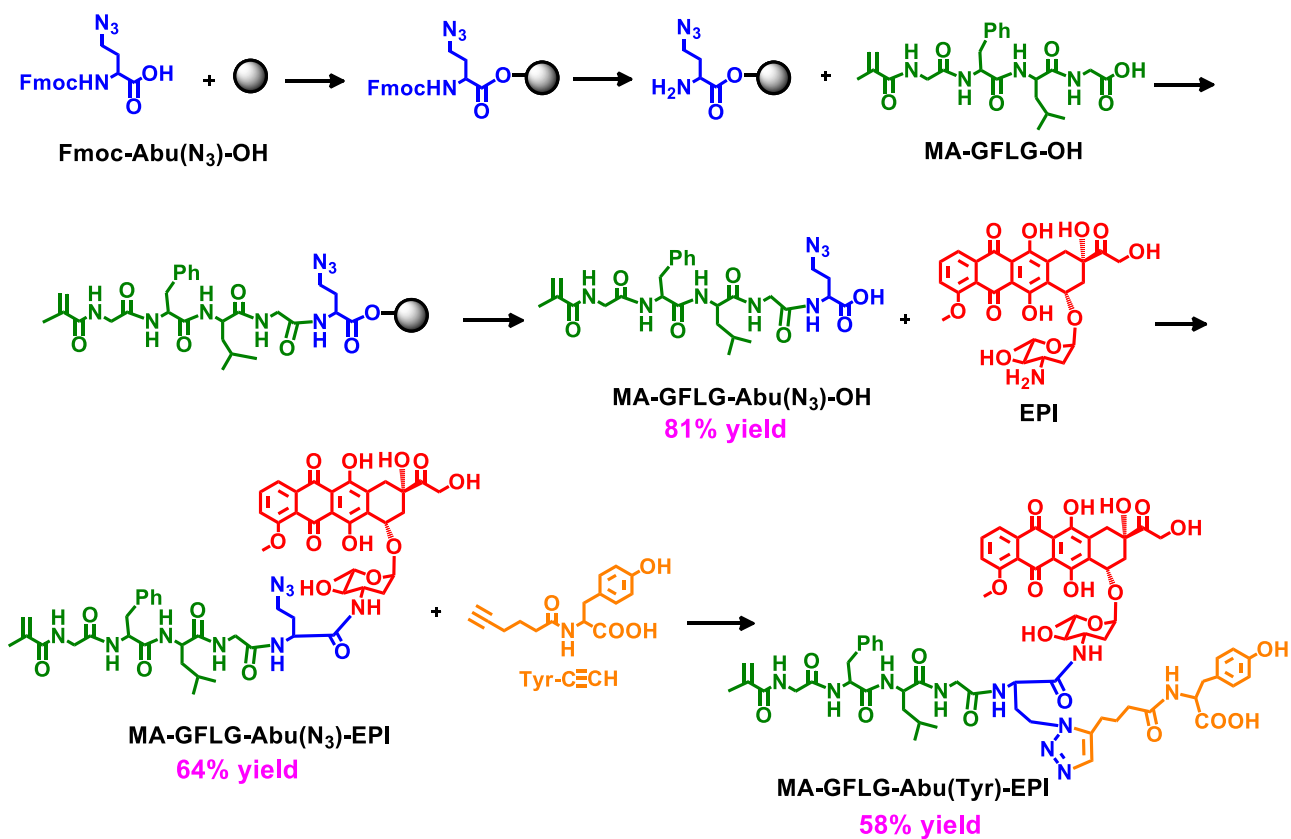

Fig. S2. Synthesis of MA-GFLG-Abu(N₃)-EPI and MA-GFLG-Abu(Tyr)-EPI.
2. Synthesis of MA-GFLG-Abu(N₃)-EPI and MA-GFLG-Abu(Tyr)-EPI	(Fig. S2)